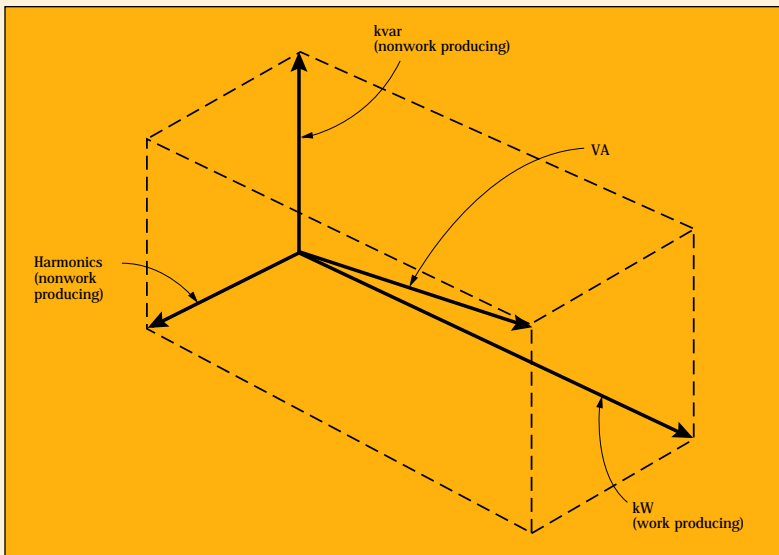

Figure 7.7 Total Power Factor increases with harmonics.
Total PF and Displacement PF are the same in one basic sense: they are the ratio of Real Power to Apparent Power, or Watts to VA. DPF is the classic concept of power factor. It can be considered as the power factor at the fundamental frequency. Total Power Factor, abbreviated to Power Factor (PF), now includes the effects of fundamental and of harmonic currents (it is also referred to as True PF or Distortion PF, Fig. 7.7). It follows that with the presence of harmonics, PF is always lower than DPF and is also a more accurate description of total system efficiency than DPF alone.